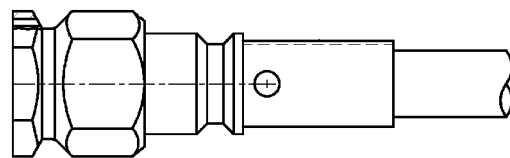

Figure 6
7. The assembled plug should resemble the plug in Figure 6.